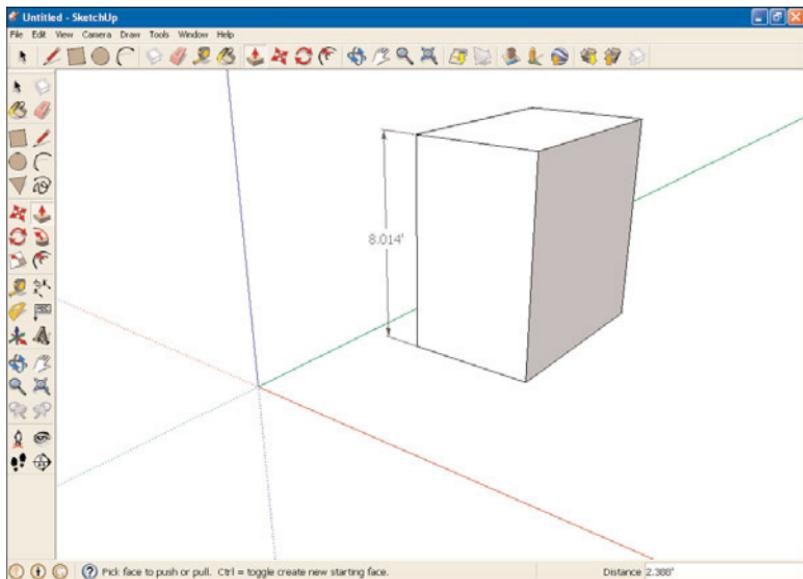

FIGURE 10.6 A resized cube.
9. Pull the cube up vertically as you see in Figure 10.6. Note that the length measurement in the dimensioning label changes to match the new height.